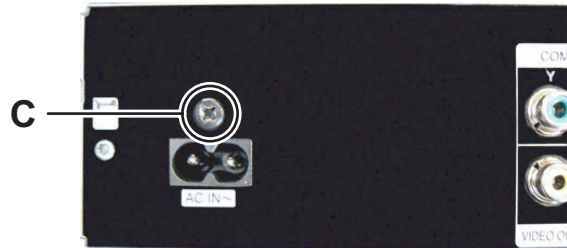

Fig.6
3.3 Removing the SMPS board (See Fig.6, 7)
- (1) Remove the one screw **C** attaching the AC jack. (See Fig.6)